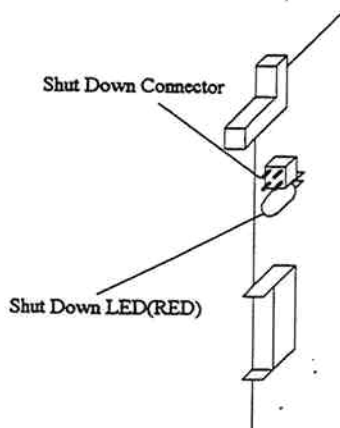

Fig. 3.7.4.3-5 Shut Down LED
- a. Remove the SCSI Interface Cables referring to Fig. 3.7.4.3-6.